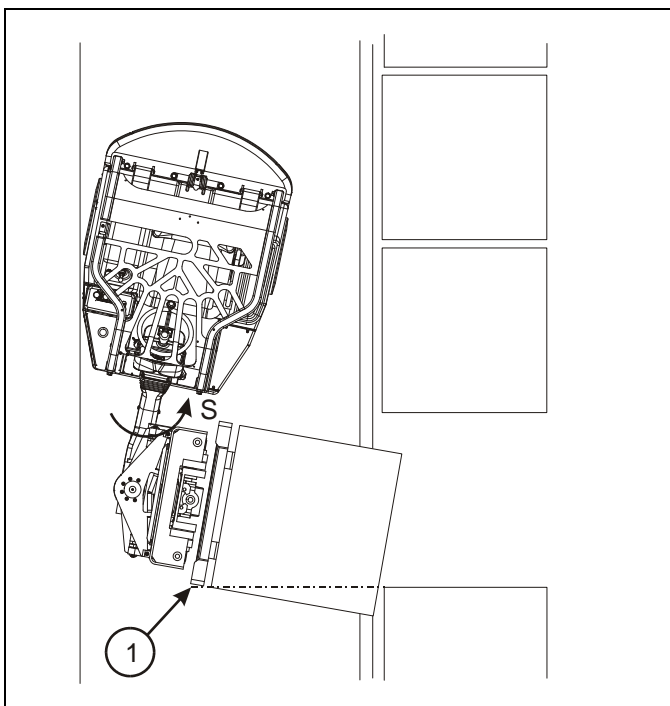

Figure 4-21: Load Drop-Off
6. Stop the forklift and turn the load 90° (turn the steering wheel counterclockwise) so it points in the direction you will drop it off. See Figure 4-21.